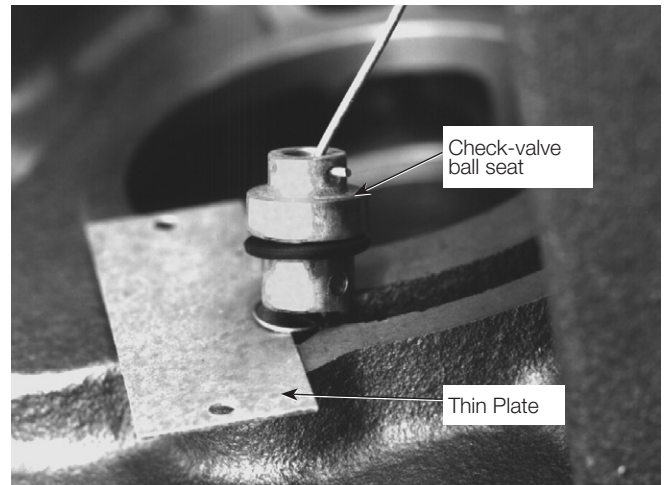

Figure 11. Check valve installation
- C. Reinstall O-ring gasket on ball seat, replace check-valve ball and pin the assembly to the spring, see Figure 11.